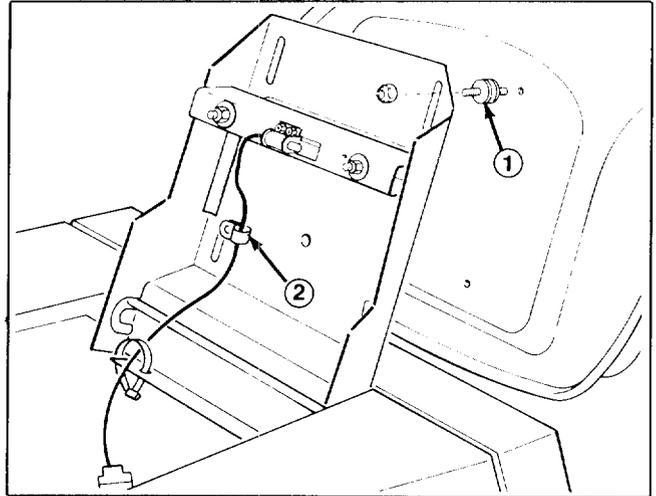

Figure 3
1. Thread (4) seat spacers into bottom of seat (Fig. 3).
2. Position seat onto seat base, inserting spacer studs thru mounting holes (Fig. 3).
3. Using left front spacer stud, loosely secure wire clamp and seat to seat base with a locknut (Fig. 3).
4. Mount seat to seat base with (3) remaining locknuts.